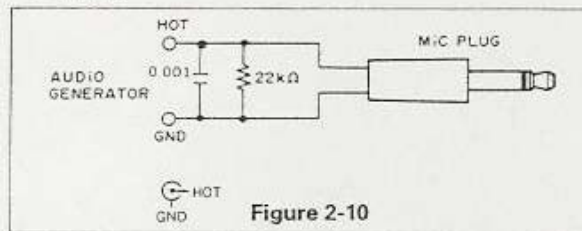

Figure 2-10
- a) Set the supply voltage and channel frequency of the transceiver to 7.2 V DC and 435.000 MHz. Connect the microphone plug as shown in Figure 2-10 below in to the external microphone jack, and adjust R397 so that the frequency deviation is ± 5 kHz provided that the AG output is a sine wave of 1 kHz, 60 mV.
- Set the supply voltage and channel frequency of the transceiver to 7.2 V DC and 145.990 MHz. Connect the microphone plug as shown in Figure 2-10 below in to the external microphone jack, and adjust R395 so that the frequency deviation is ± 5 kHz provided that the AG output is a sinewave of 1 kHz, 60 mV.